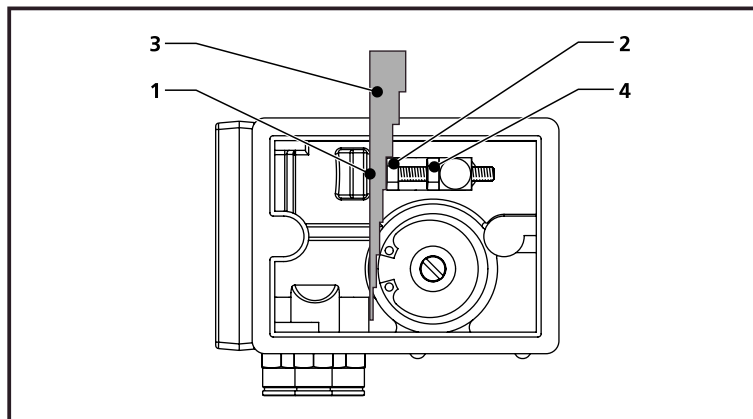

fig 6.3 Setting the brake impulse
2. Set the distance (Figure 6.3) between the left-hand side of the striker (1) and the head of the adjusting bolt (2). The distances equivalent to a specific number of pulses are shown on the transparent cover. A feeler-gauge (3) is fixed to the inside of the cover and can be used to set this distance. The tool is marked with the number of pulses related to each thickness.
3. Tighten the lock nut (4) of the adjustment bolt.